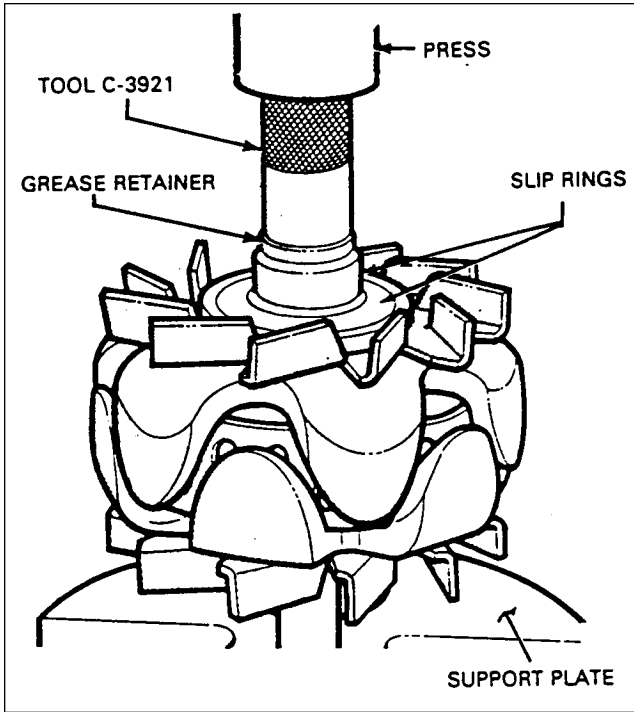

Figure 24-18. Installation of Grease Retainer
1. Position grease retainer on rotor shaft and press retainer on shaft with installer tool C-3921. Plastic retainer is properly positioned when inner bore of installer tool bottoms on rotor shaft. (Refer to figure 24-18.)